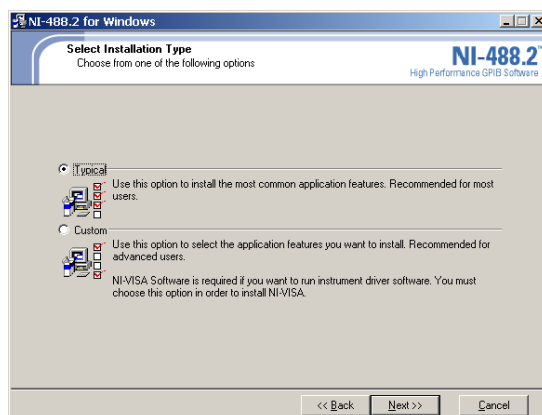

Figure 4E. Select Installation Types dialog—installation page 4
6. The **Select Installation Types** page will open (Figure 4E). Click on the radio button for **Typical** installation, then click on the **Next >>** button.